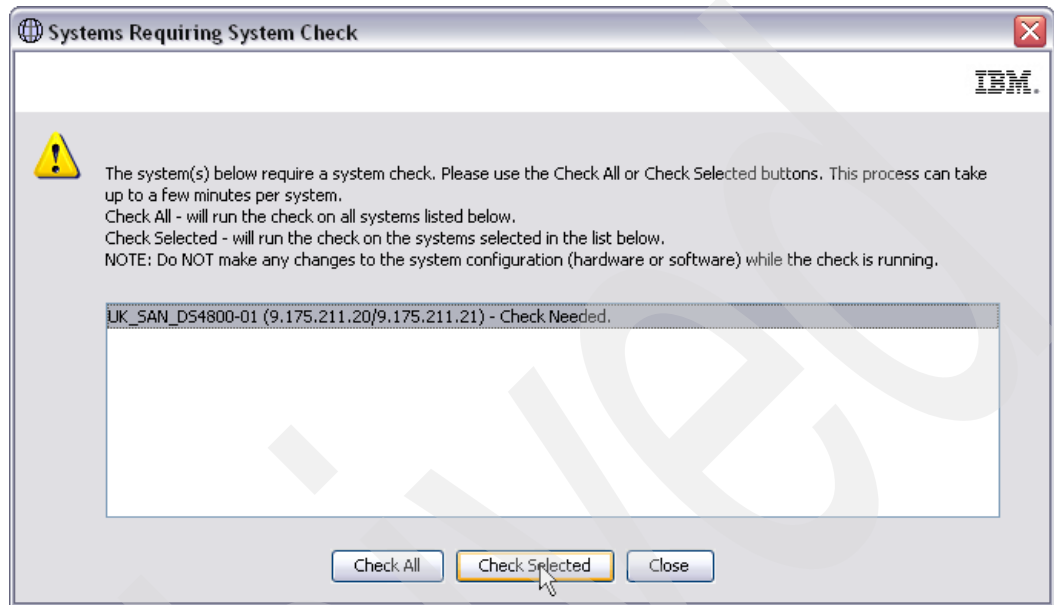

Figure 7-16 DbFix system check selection window
- Select **System Check** → **System Check**. A new window opens that shows just the DS4000/DS5000 storage subsystems that need checking, as shown in Figure 7-16.